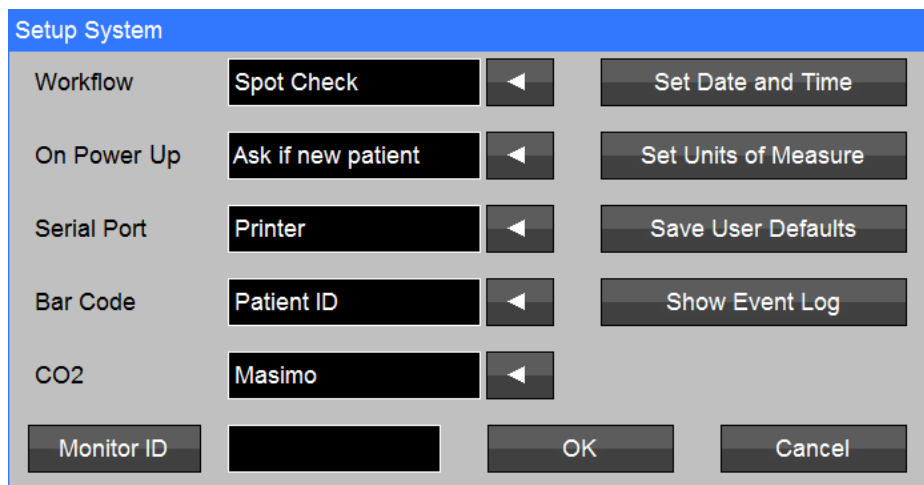

Figure 9: Setup System Menu: **Spot-Check Workflow** mode
- Set **Workflow** selection to **Spot Check** (refer to Figure 9 below)